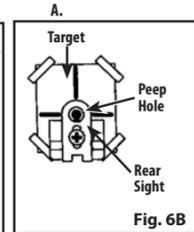

Fig. 6B
5. When using the peep sight, the airgun is correctly aimed when the front sight blade is positioned exactly in the center of the peep of the rear sight (Fig. 6B).